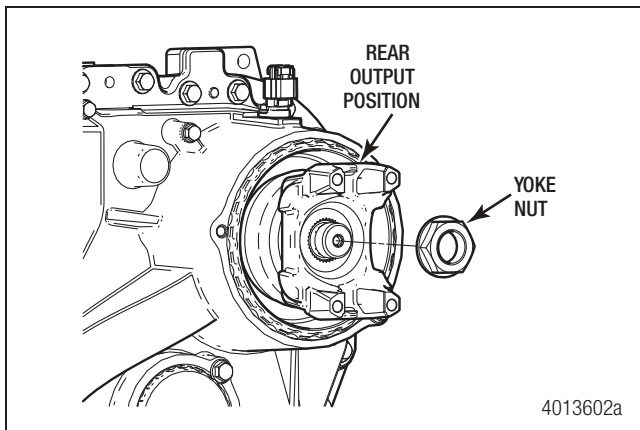

Figure 4.1
2. Use a yoke retaining tool to prevent the yoke from turning. Remove the yoke locknut from the rear output shaft. Figure 4.1.